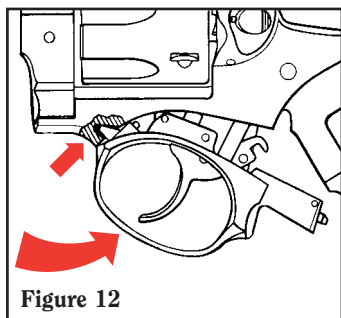
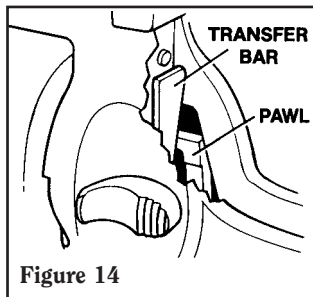

Figure 12
Figure 14
6. Use a screwdriver of appropriate size and insert it through the hole in the frame to depress the trigger guard lock plunger located inside the frame at the rear of the trigger guard. Simultaneously pull down and remove the trigger guard assembly (see Figures 12 & 13). It may be necessary to slightly depress the trigger while removing the trigger guard assembly.
2. Hook the front of trigger guard into the recess in the frame (see Figure 12, p. 22). Align the pawl in its recess in the frame and be sure the transfer bar is in the correct position in the rear of firing pin. Swing the trigger guard upward into position in the frame then allow the latch to re-engage. If solid resistance is felt when swinging the trigger guard into the frame, or if the trigger guard will not lock into position, re-check the position of the pawl and the transfer bar (see Figure 14).